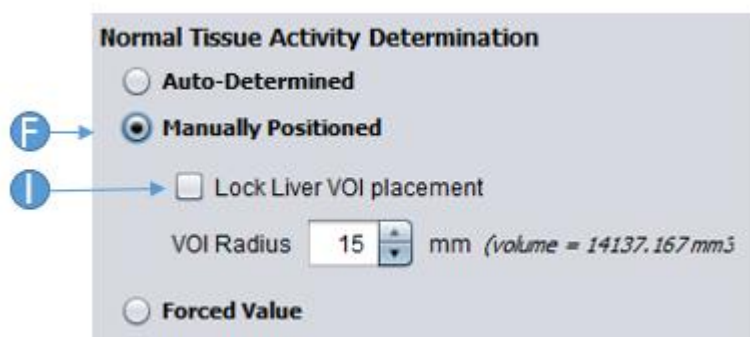

Figure 6-11 Auto-PERCIST™ Normal Tissue VOI - Manual Positioning
The *Manually Positioned* setting (Figure 6-11) (F) allows the user to refine the placement of a VOI which had previously been placed using the *Auto-Determined* method. When selected, the user can drag the reference VOI in any of the planar display modes (Axial, Sagittal, Coronal or TCS) with the mouse. Once the final positioning is selected, selection of the Lock Liver VOI Placement button (I) will fix its position, preventing accidental re-positioning while navigating the display window with the mouse.